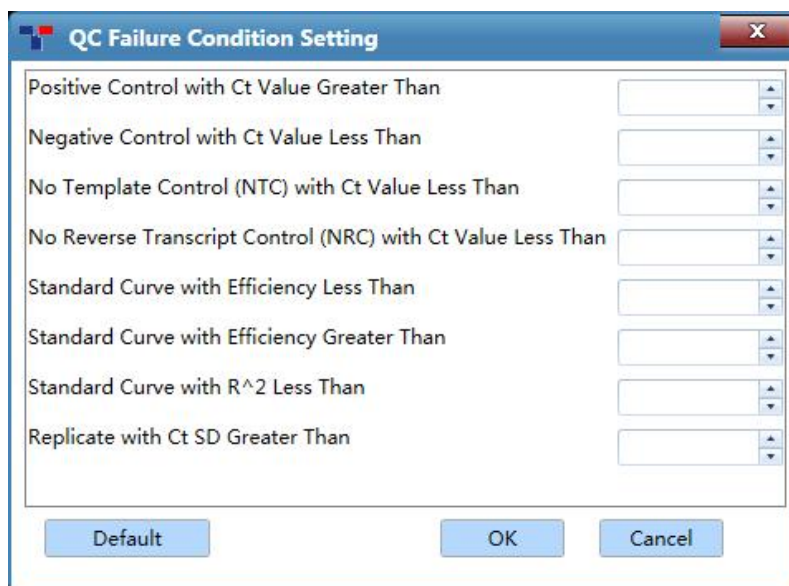

Figure D-6.7. Sample Setting Interface - QC Failure Condition Setting
- **QC Failure Condition Setting:** after completing the sample well setting, please click  icon and the QC failure condition setting dialog box will pop up automatically, as shown in figure D-6.7.